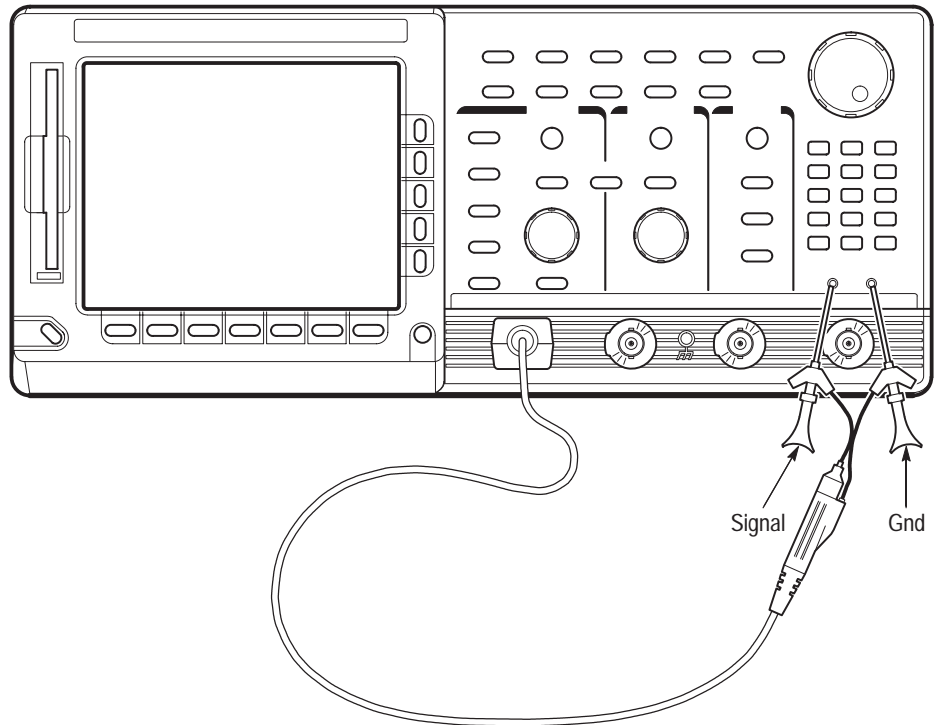

Figure 4–3: Universal test hookup for functional tests – TDS 600C shown
- a. *Hook up the signal source:* Install the probe on **CH 1**. Connect the probe tip to **PROBE COMPENSATION SIGNAL** on the front panel; connect the probe ground (typically black) to **PROBE COMPENSATION GND**. If using a P6243, P6245 or P6249 probe, you may want to attach a Y-lead connector and two SMD KlipChips as shown in Figure 4–3.